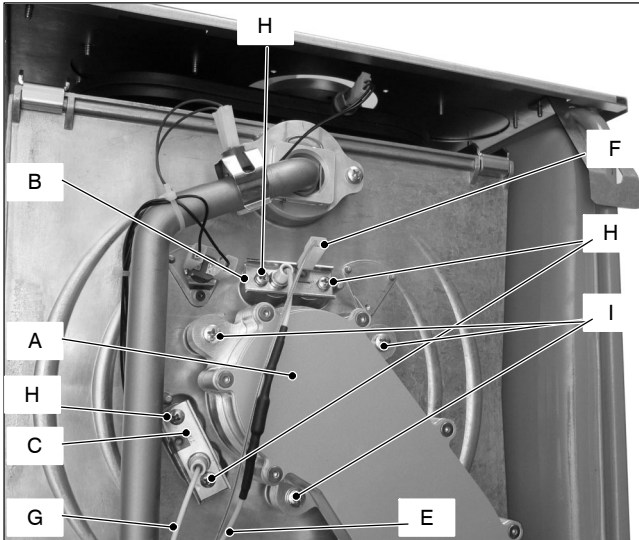

Fig. 18.1
- 2 Disconnect the ignition electrodes connector E and the earth wire F (Fig. 18.1) and disconnect the detection electrode connector G.
- 3 Unscrew the screws H and remove the ignition electrodes B and the detection electrode C (Fig. 18.1).
- 2 Unscrew the screws I (Fig. 18.1) and remove the fan–burner duct A.